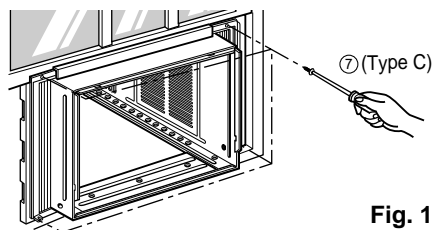

Fig. 17
- 6 Attach each Frame curtain the window sash by using screws (Type C.) (See Fig. 17)